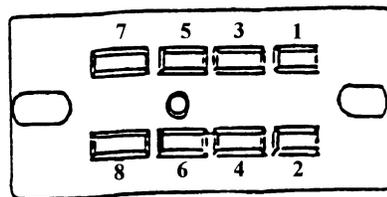

Figure 3
2. Remove the terminal from location 3 of changer socket (See figure 3 above) using removal instructions on page 3.
4. Remove terminal from location 7 of changer socket (See figure 3, page C1) using the removal instructions on page 3.
7. Insert wire #3 of the conversion harness in changer socket location 3. (See figure 3, page C1.)
8. Insert wire #4 of the conversion harness in changer socket location 4. (See figure 3, page C1.)
9. Insert wire #7 of the conversion harness in changer socket location 7. (See figure 3, page C1.)
10. Insert wire #8 of the conversion harness in changer socket location 8. (See figure 3, page C1.)